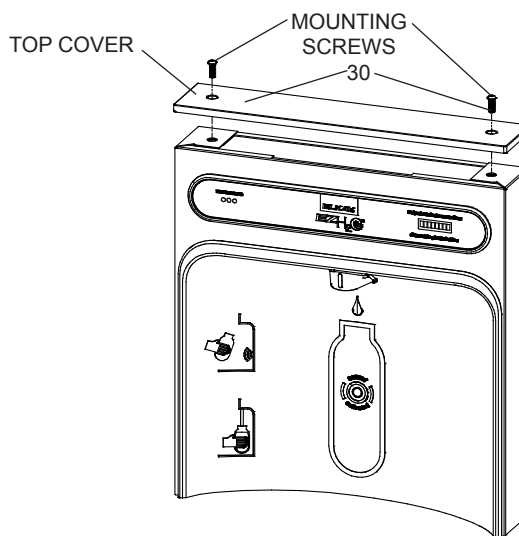

Fig. 6
- 1) Remove two (2) mounting screws with 5/32" Allen wrench holding top cover to Bottle Filler (See Fig. 6). Remove top cover. Note do not discard mounting screws, they will be needed to reinstall top cover.
- 11) Once Bottle Filler is installed on wall plate tabs, water line, wire(s) and power cord are installed properly, push top of Bottle Filler toward wall and line up top cover two (2) holes.
- 12) Reinstall Top Cover on Bottle Filler (See Fig. 6) with two mounting screws from step 1 above. Caution, do not over tighten screws.